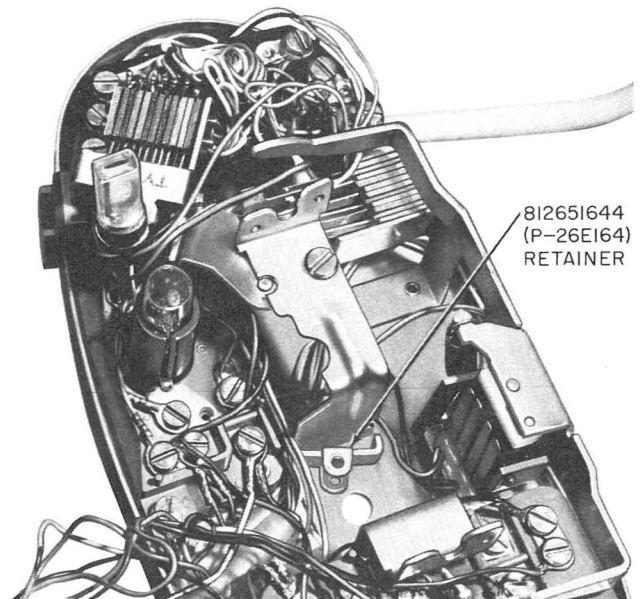

Fig. 3—Installing Terminal Board Retainer in PRINCESS® Telephone Set
- Revise Fig. 3 and 5
- (1) Remove housing; loosen dial mounting screws and move the dial to one side without disconnecting the dial leads.
- (2) Insert the retainer in left-hand dial mounting bracket (Fig. 3).